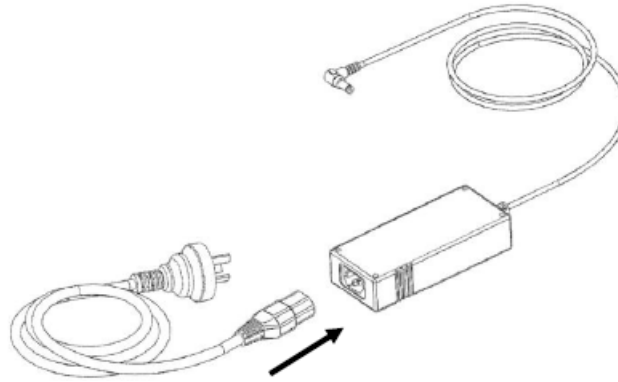

Figure 3-13: Power Supply Cable Connection
- a. Connect the power supply cable to the power supply adapter, as shown in Figure 3-13.